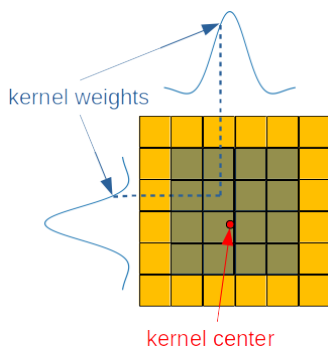

Fig. 9.3: The yellow pixels represent the image pixels; the red dot is the kernel center computed by the models; the blue pixels are the 4x4 kernel box.
- the 3 models are used to find the point where the re-sampling kernel must be applied, i.e. the models get the center of the  $w_5$  kernel (red dot in the Fig. 9.3);
- SIPGI collects 16 pixels covered by the the 4x4 pixels box (green pixels in the Fig. 9.3);